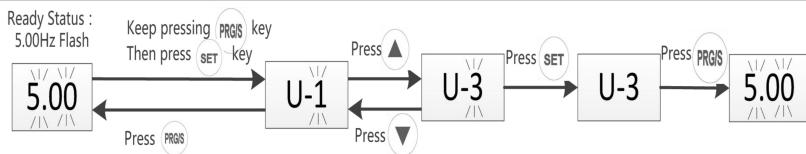

Figure 7-8 Use key combinations to select menu mode
a) Use key combinations to alter menu mode as shown in Figure 7-8: